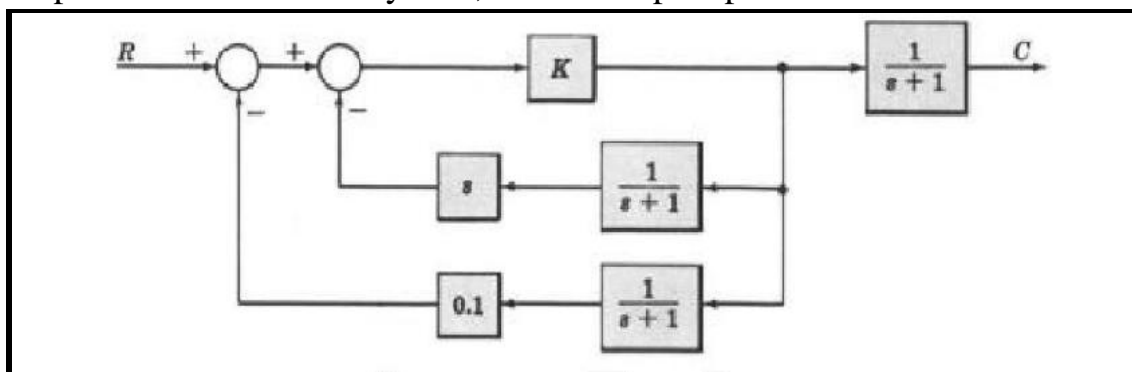
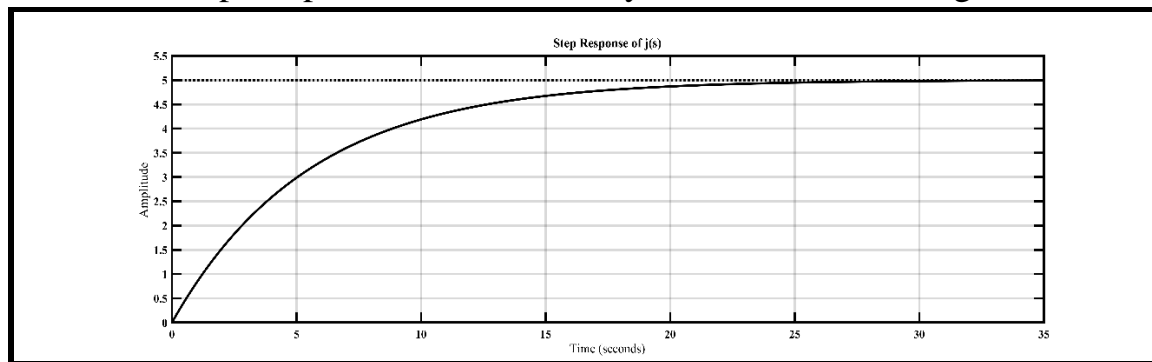

Figure 2: The Control system need to describe used command and find step response.
Figure 11: The Step Response of control System shown in the Figure 2
- The MATLAB commands were used to describe the control system shown in the Figure 2, and the value of K set to 10, R is reference value and C is output from the Control system, and the step response of it was found.
- **Part 2:** For the system shown in the Figure 2 the Code 2 in Appendix A.1 was used to programed it and found the step response, the results is shown in the Figure 11 and the transfer function  $j(S)$  is shown in part 2 in results part.
- **Part 2:** The transfer function  $j(s)$  of the control system shown in the Figure 2:
➤ The Step Response of the control system shown in the Figure 2: